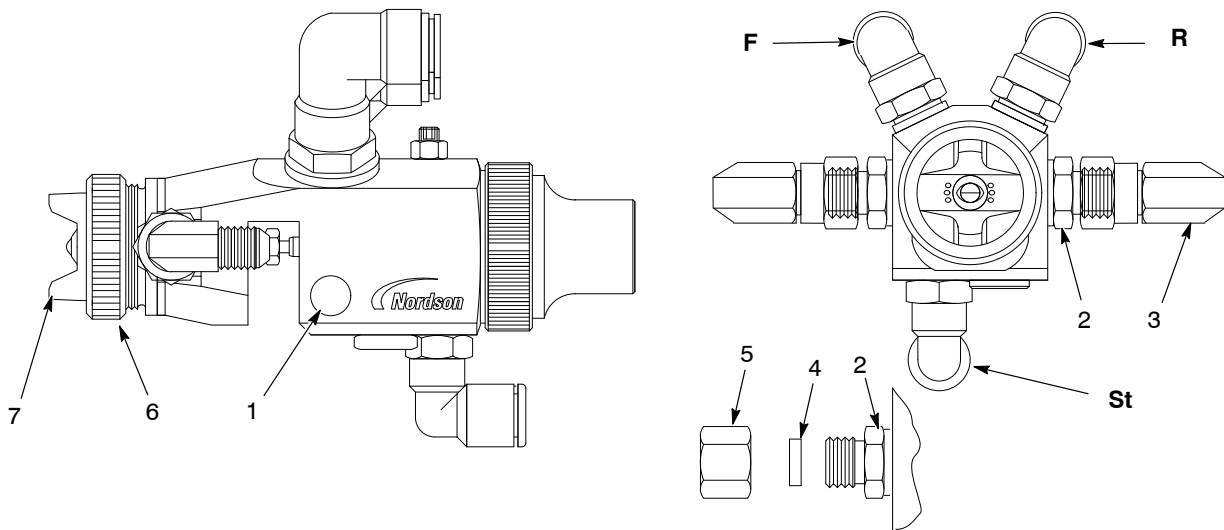

Figure 1 Trilogy AAA Automatic Spray Gun
1. See Figure 1. Using the 10-mm mounting hole (1), mount the spray gun as desired. If using 1/2 in. mounting bars, use the 10 mm to 1/2 in. adapter included with the gun.
2. Connect 1/4 in. (US) or 8 mm (EU) trigger air tubing to the fitting marked **St.**
3. Connect 3/8 in. (US) or 8 mm (EU) air tubing to the F and R ports. The F port is for Fan Pattern air; the R port is for atomizing air. These ports allow the remote control of coating atomization and fan pattern shape.
4. Connect the fluid delivery and return hoses to the 1/2 in. JIC elbows (3) or G 1/4 straight fittings (2).
See Figures 1 and 2. Triggering of the spray gun is accomplished by applying air to the **St** port. Spray pattern adjustments can be made as follows:
Fan Pattern Orientation	<ol style="list-style-type: none"> <li>1. Relieve all pressure to the spray gun.</li> <li>2. See Figure 1. Loosen the air cap retainer (6).</li> <li>3. Rotate the air cap (7) to the desired position.</li> <li>4. Tighten the retainer securely.</li> </ol>